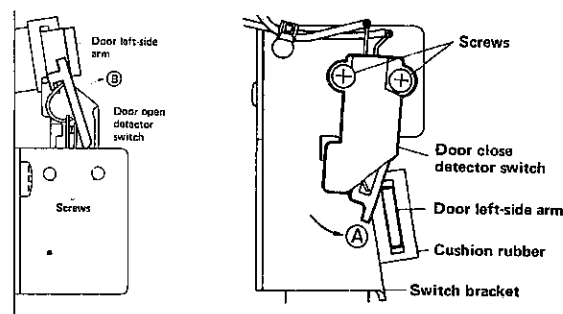

Figure 16-1
2. Turn the player door close detector switch in arrow (A) direction shown in Fig. 16-1, and stop it at where it is about to switch on.
2. Turn the player door open detector switch in arrow (B) direction shown in Fig. 16-1, and stop it at where it is about to switch on.